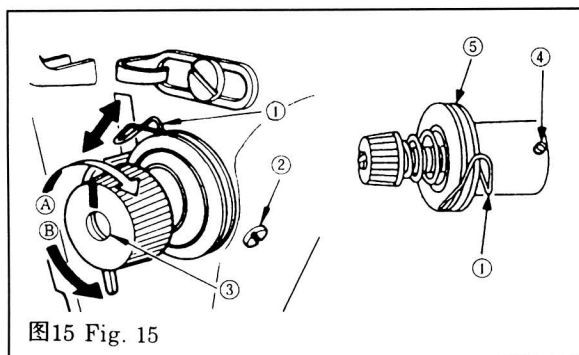

图15 Fig. 15
- 1) As you turn tension adjust screw ② clockwise (in direction C), the bobbin thread tension will increase.
- 2) As you turn screw ② counterclockwise (in direction D), the bobbin thread tension will decrease.
9. 挑线簧(图 15)
9. THREAD TAKE UP SPRING (Fig.15)